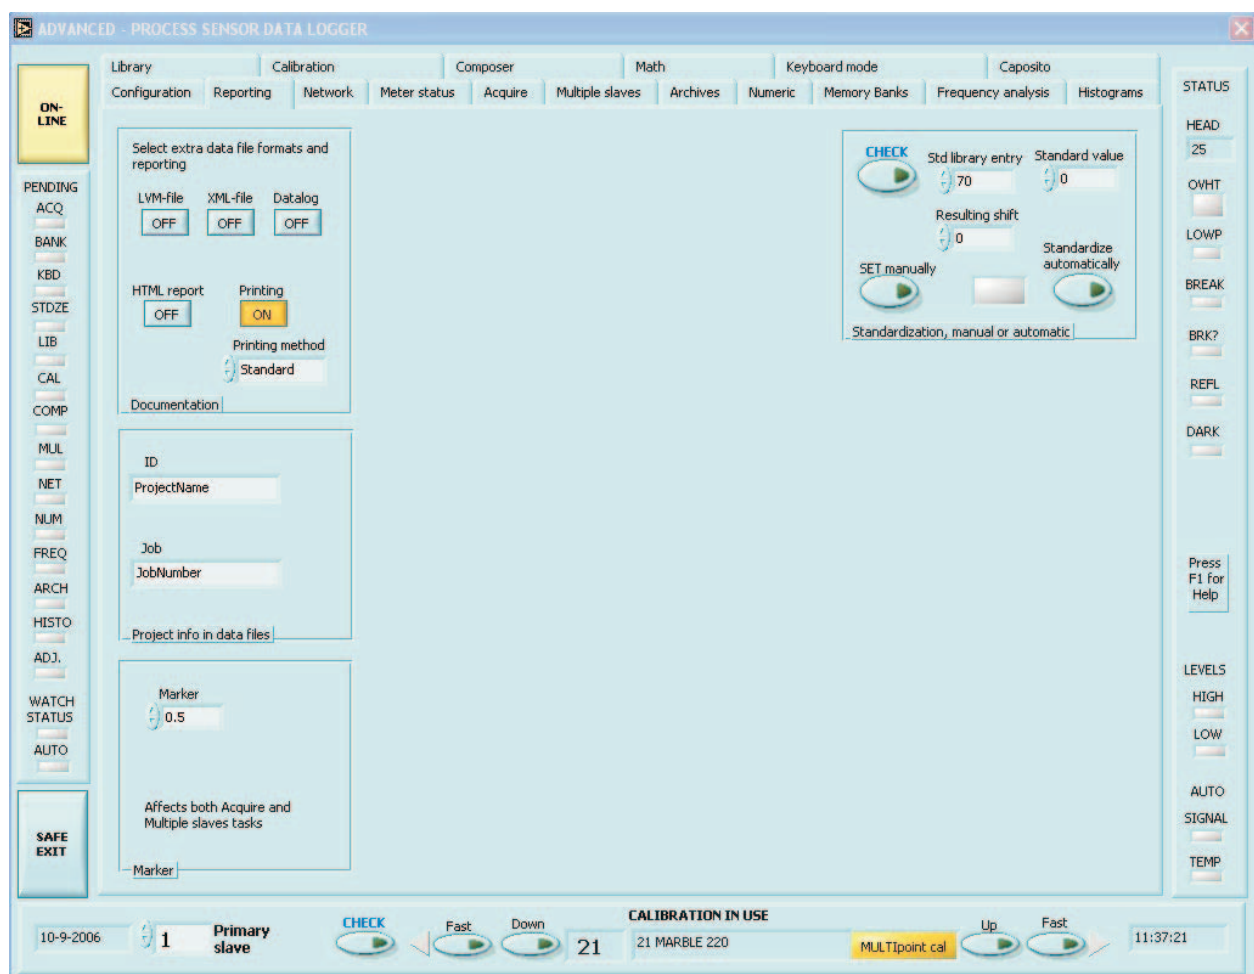

Figure 1. The standardization task on the Reporting page in the Advanced program
3. The Standardization is on its own page in the programs or with other tasks, refer to Figure 1. Press the button **Check** to retrieve the current parameters. The table number should be 70 unless you have changed it for a good reason. The standard value is shown too if this has been done before. The cumulative difference (Resulting shift) or correction value is shown too. This value should be zero at this time. If not, edit it and press the button **SET manually**. Select the table number **70 factory calibration**.
3. The Standardization is on its own page in the programs or with other tasks, refer to Figure 1. Press the button **Check** to retrieve the current parameters. The table number should be 70 unless you have changed it for a good reason. The standard value is shown too if this has been done before. The